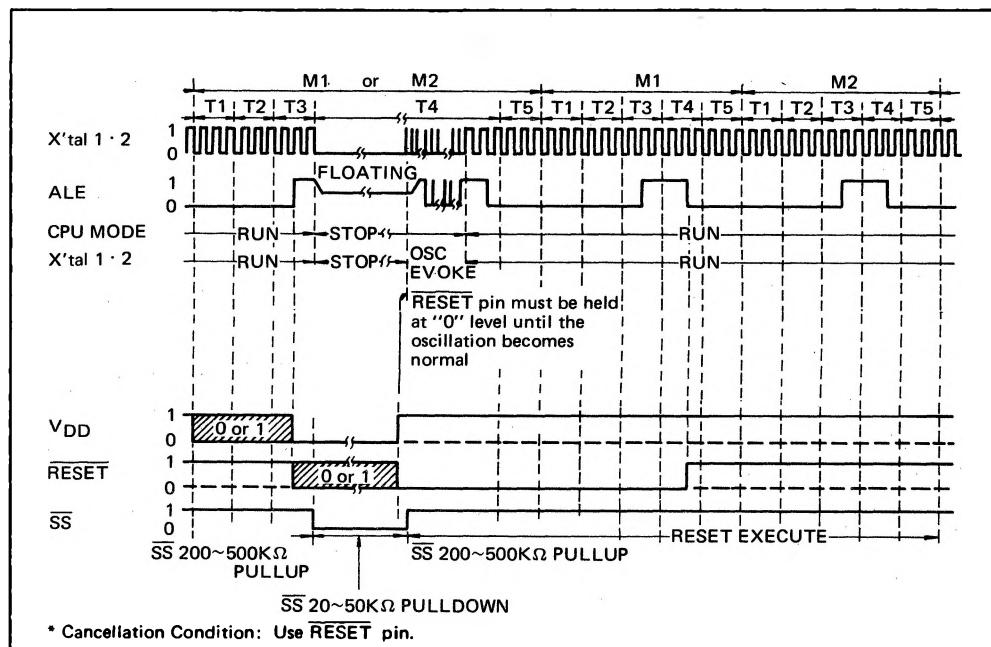

Fig. 4-5 Hardware Power-Down Mode Timing Chart
- (1) Use of RESET pin
- The clock generator is activated and the CPU started up when a "1" level is applied to the V_{DD} pin while a "0" level is input to the RESET pin. If this "0" level is kept applied to the RESET pin until oscillation become stable, the CPU will be reset and will start executing from address 0. The timing chart is outlined in Fig. 4-5.
- (2) Use of the INT pin during external interrupt enabled status (i.e. following execution of ENI instruction)